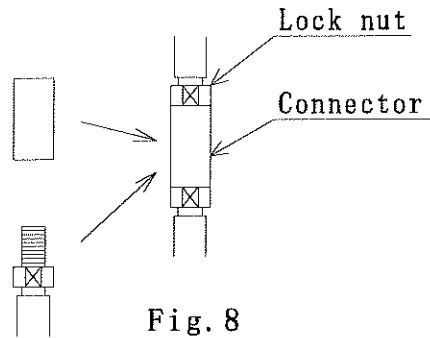

Fig. 8
(2) In case of Hastelloy (See Fig. 8)